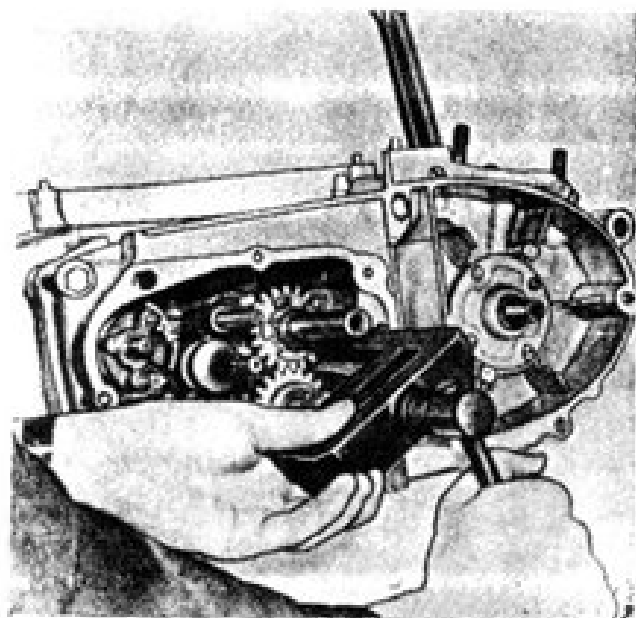

Fig. 12. Layshaft pressing-out, HЖ-П-3 motorcycle.
6. Get the layshaft out. Use the puller 14, Set No. 2 (Fig. 12), if it is necessary.